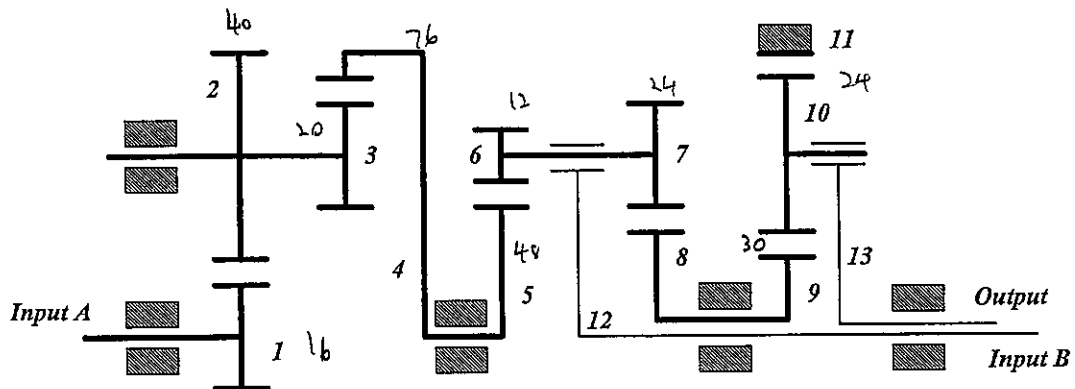

Figure 2
- (c) A compound planetary gear train system is shown in Figure 2. Gear 1 is the input A running at 120 rpm (cw). Carrier 12 is the input B running at 100 rpm (ccw). Gears 1, 2, 3, and 4 form a reverted gear train. (Gear 3 and 4 form an internal gear pair.) Gear 5 is the sun gear connected to ring gear 4. Planet gears 6 and 7 are connected and supported by carrier 12. Sun gears 8 and 9 are rigidly connected together. Gear 10 is a planet gear. Gear 11 a ring gear fixed to the wall. Carrier 13 is the output. The tooth numbers are given as: